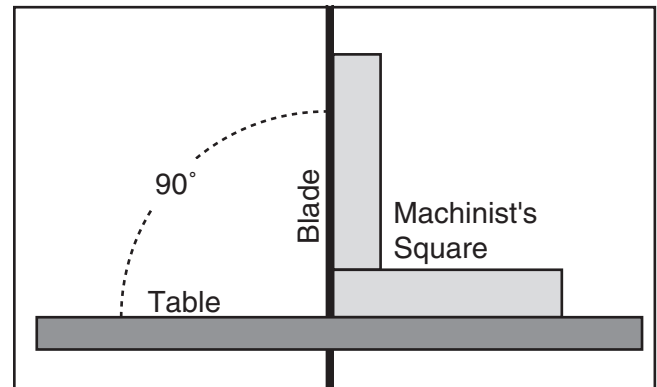

Figure 63. Checking that table is perpendicular to blade.
4. Place a machinist's square on the table and against the side of the blade, as shown in **Figure 63**.